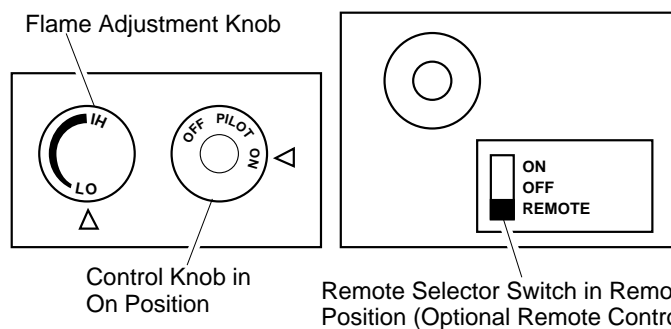

Figure 33 - Setting the Remote Selector Switch, Control Knob, and Flame Adjustment Knob for Remote Operation
1. After lighting, let pilot flame burn for about one minute. Turn control knob to ON position. Adjust flame adjustment knob anywhere between HI and LO. Slide the remote selector switch to the REMOTE position (see Figure 33). **Note:** The burners may light if hand-held remote ON button was on when remote selector switch was last turned off. You can now turn the burners on and off with the hand-held remote control unit.